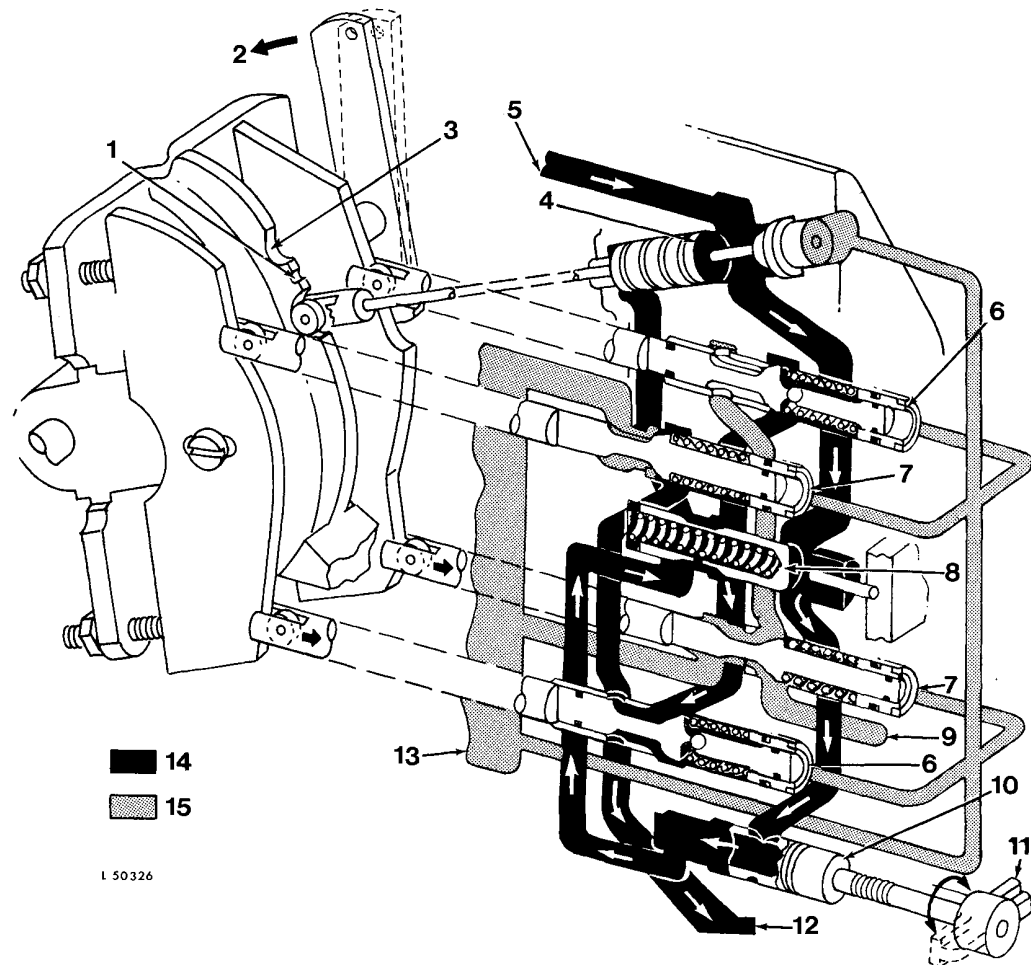

Fig. 1 — Selective Control Valve in "Fast Extend" Position
1. A metering valve 10 (fig. 1) which regulates oil flow to the remote cylinder and makes possible, within a certain range, gradual regulation of the oil flow.
In neutral position, oil pressure is equal on both sides of the metering valve. Both pressure valves 6 (fig. 1) and both return valves 7 are closed, trapping oil on both sides of the remote cylinder piston, and retaining the piston in its present position.
Move control lever fully to the rear. This will turn the rocker assembly and open lower return valve as well as lower pressure valve (see fig. 1).
Move control lever only slightly forward. As the rocker assembly rotates, the top return pressure valves (see fig. 1) are opened. Pressure and return oil from the remote cylinder is metered appropriately and the remote cylinder rod gradually retracts.
The operation in position "slow extend" is similar to that of "slow retract", the difference being that the control lever is pulled slightly to the rear. Thus both lower valves (see fig. 1) are opened and oil flows in the opposite direction.